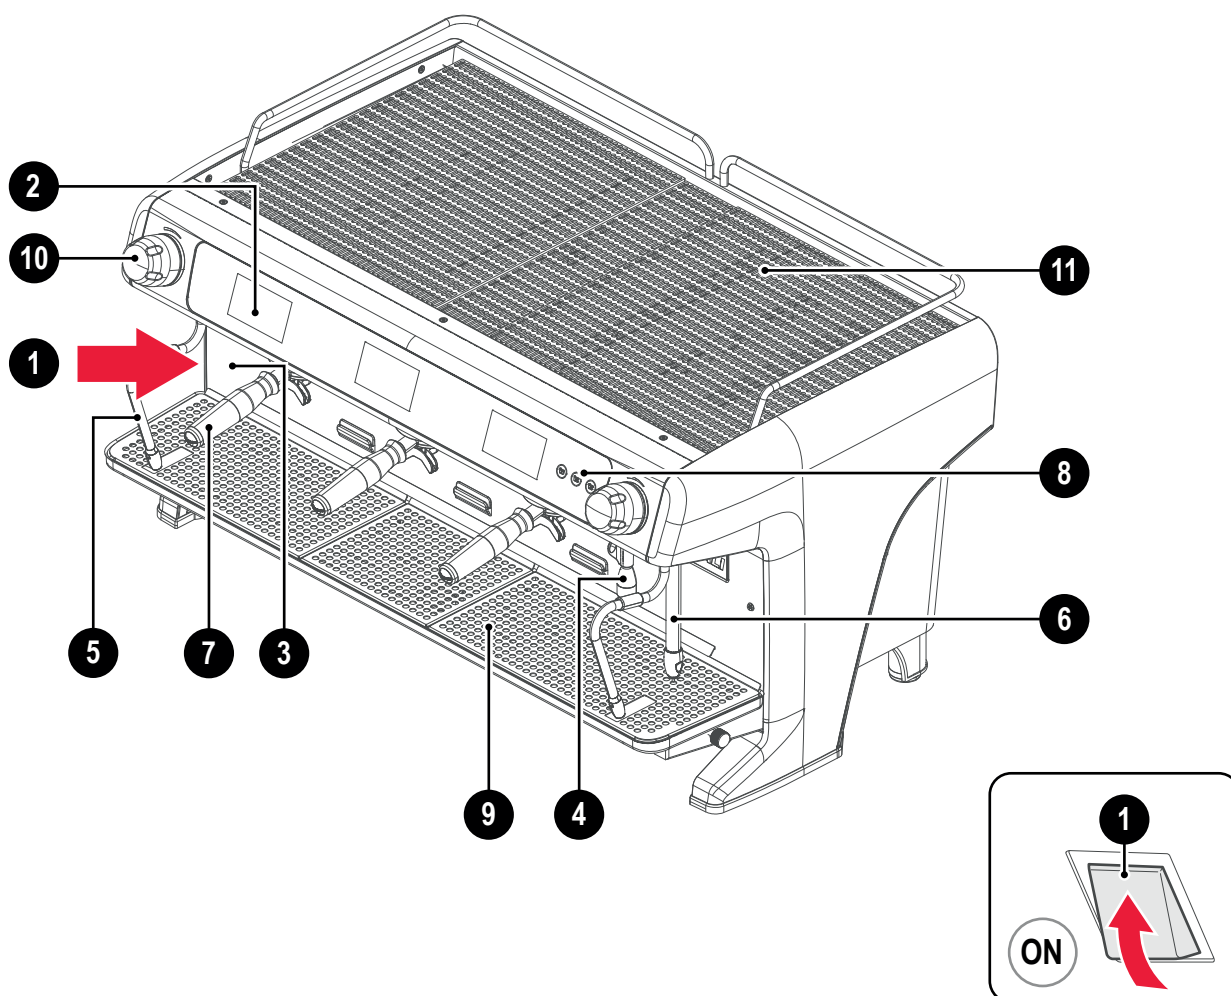

Fig. 4.1 - Parts of the appliance
For the parts of the appliance, see Fig. 4.1.
- Press the main switch (1 - Fig. 4.1) to turn on the appliance.
- While waiting for the appliance to be ready, insert the portafilters (10 - Fig. 4.1) in the dispensing groups.